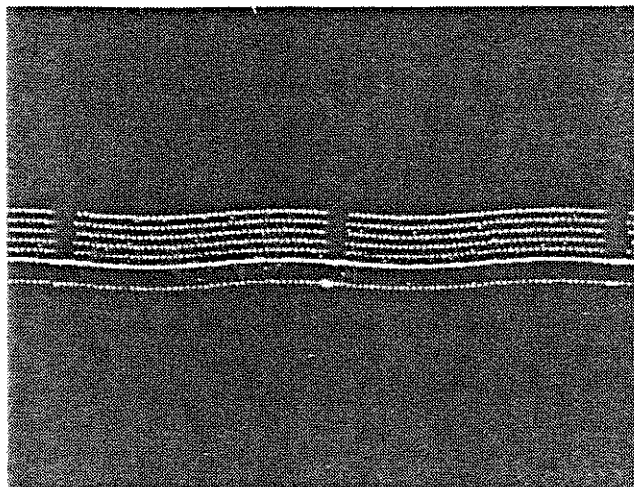

Fig. 4-34 TV Clamp check display
- g. CHECK that the Monitor display amplitude of the 60 Hz signal is less than 1/10 of the noted value in step e. (Figure 4-34).